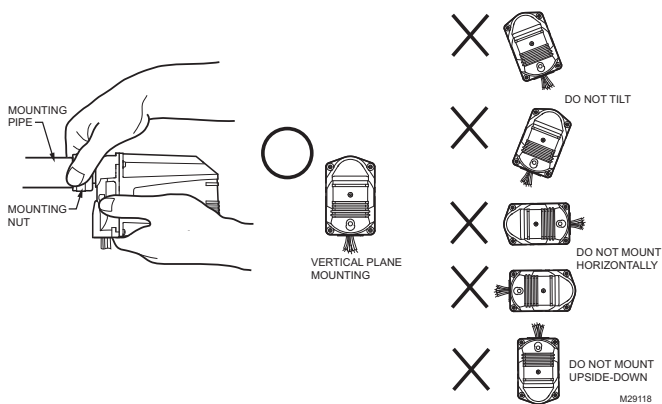

Fig. 6. Mounting C7061M Detector.
To mount a C7061M (see Fig. 6):
5. Clean the inside of the sight pipe before re-installing the flame detector(Fig. 6).